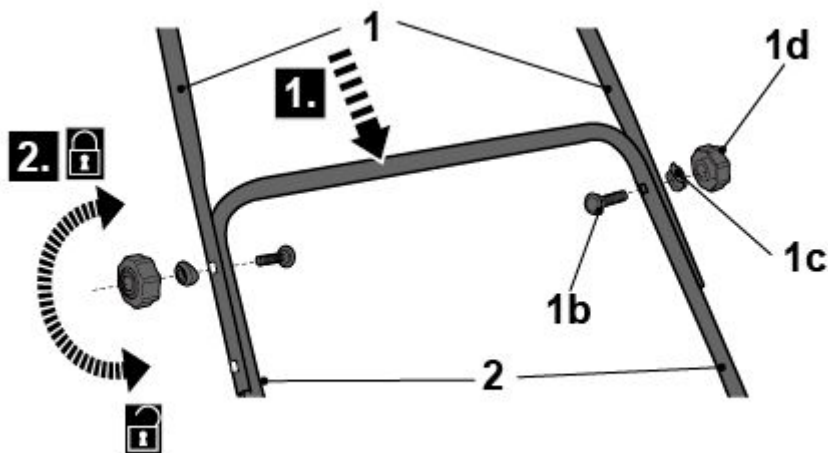

Fig. 3
line up the holes and fix the top bar of the handle [1] on the bottom bar of the handle (2) (fig. 3, step 1).
secure connection with bolts (1b), (1c) and washers (1d) button (fig. 3, stage 2 and 3).